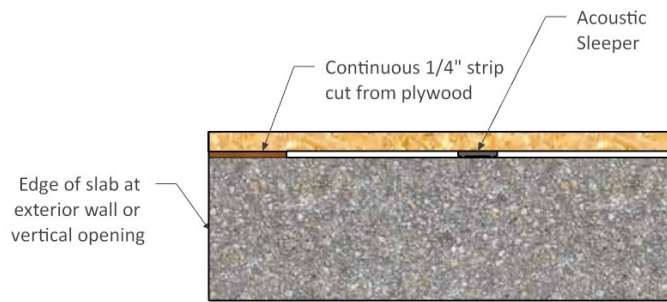

Figure 5: Typical Edge of Slab
- Fig. 5: Typical detail for concrete construction at edge of slabs with continuous plywood strip. For use at exterior walls, stairways, elevators, and shafts.